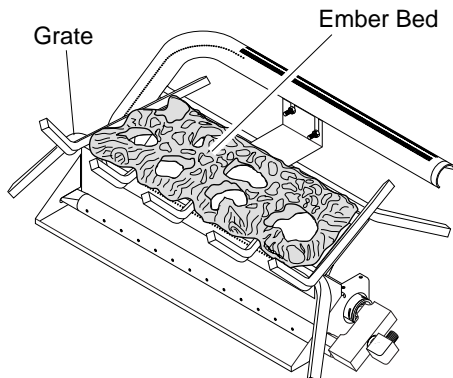

Figure 18 - Installing Ember Bed
1. Place the ember bed over log grate as shown in Figure 18.